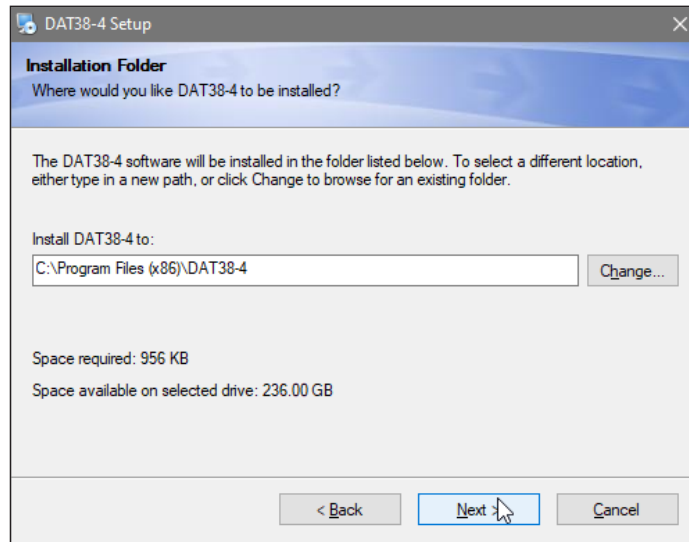
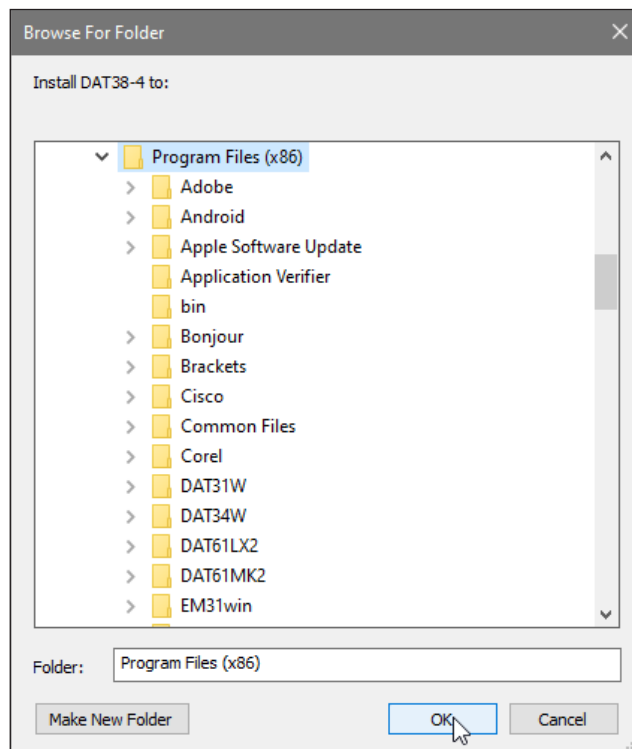

Figure 1.4 Installation directory window
Figure 1.5 Select Shortcut Folder window
4. The Installation Folder window will appear (Figure 1.4). The program will default install in C:\Program Files (x86)\DAT38-4. Click Next to confirm, or use the Browse button to select a different directory (Figure 1.5).